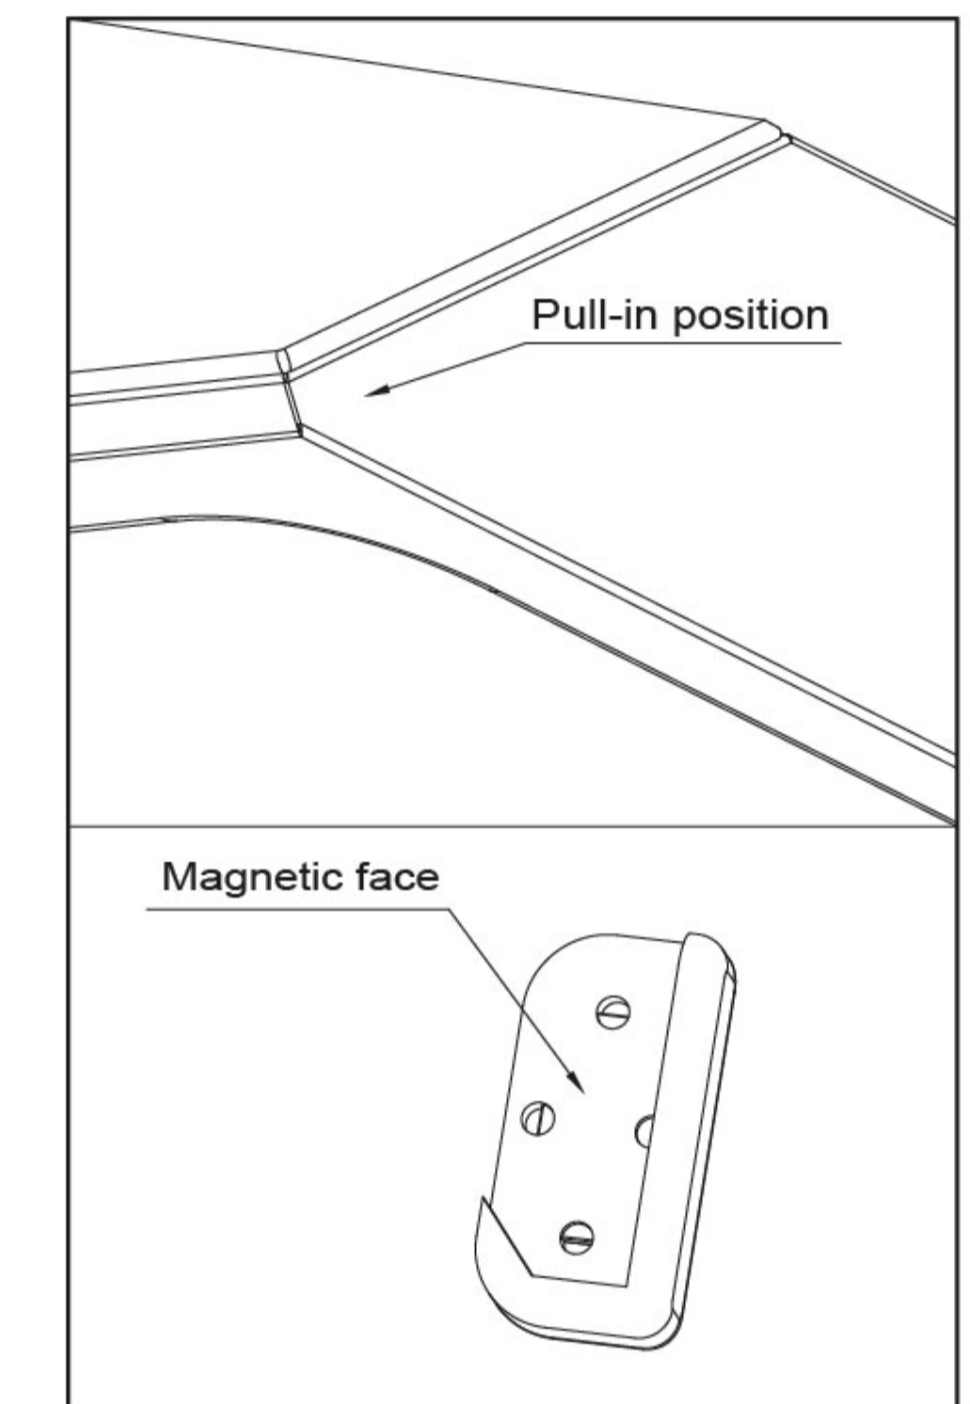
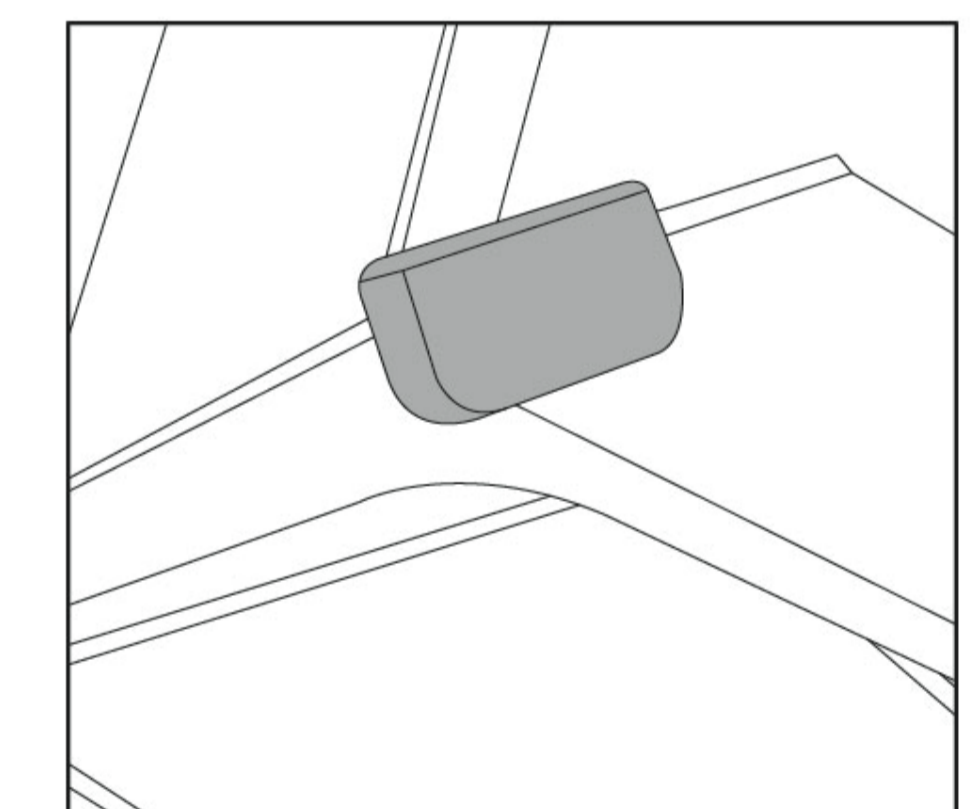

Figure 4
Figure 5
12. Installation of anti-collision parts: determine the magnetic face of anti-collision part and the product pull-in position (Figure 4), pull in the anti-collision part at the corner of the extractor hood, and then adjust it properly (Figure 5)